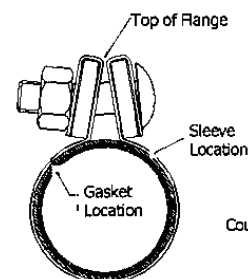

Figure 4
- The assembly is completed when the coupling is evenly tightened to the recommended torque. The flanges should touch only at their top edges (Figure 4).